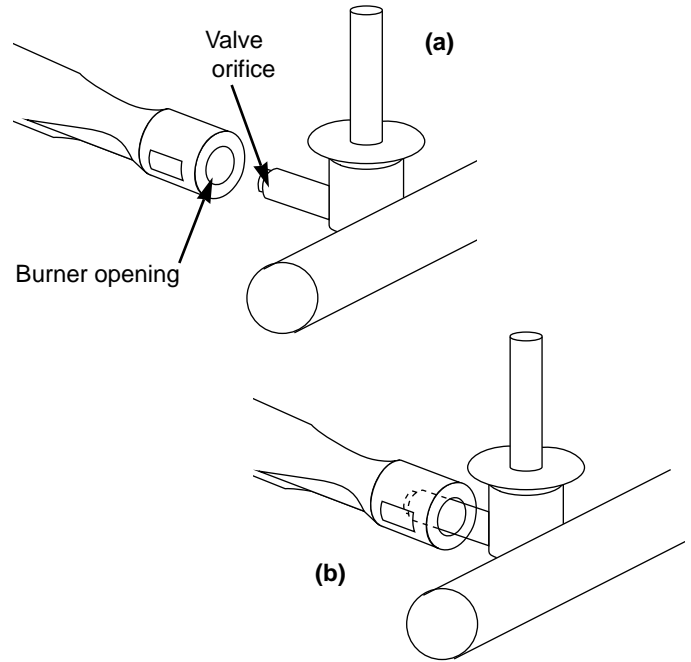

Figure 18
**⚠CAUTION: The burner openings must be positioned properly over the valve orifices. Figure 18 (a).**
Check proper assembly before fastening manifold in place. Figure 18 (b).